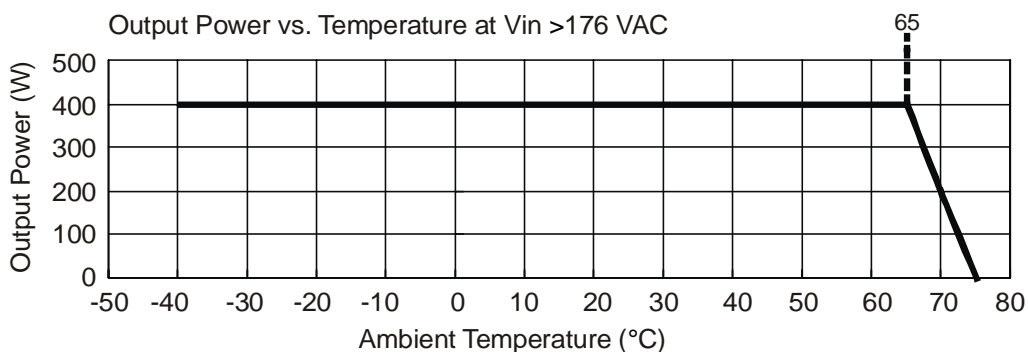

Figure 3
2.1.6 Power Derating Based on Temperature: The Rectifier Module delivers full power when operating at an ambient temperature of +65°C (+149°F) or below. Refer to Figure 3 to view the relationship between the output power and the ambient temperature.